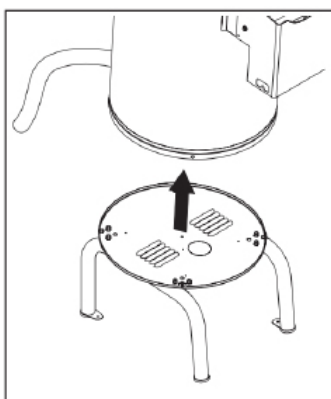

Fig. 10.
- Separate the bottom of the machine from the base (Fig. 10).